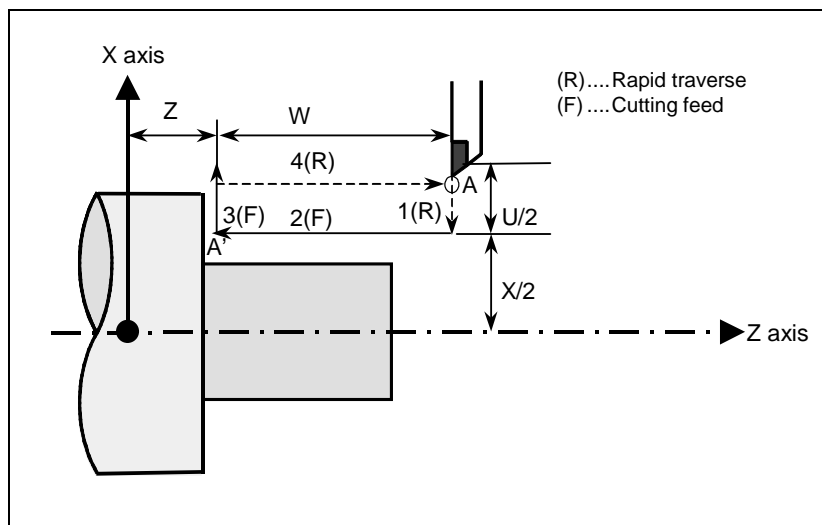

Fig. 6.3.1.1 (a) Straight cutting cycle
- X\_,Z\_ : Coordinates of the cutting end point (point A' in the Fig. 6.3.1.1 (a)) in the direction of the length
- U\_,W\_ : Travel distance to the cutting end point (point A' in the Fig. 6.3.1.1 (a)) in the direction of the length